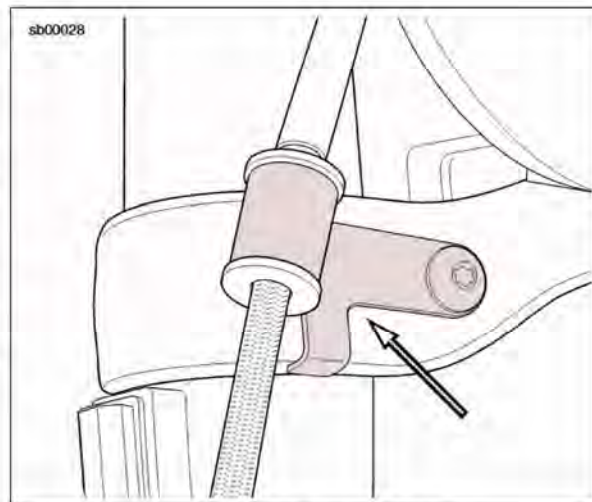

Figure 5. Front Brake Line Guide
7. Fit the rhino tape (2) against the lower edge of the outer fork tube and press into place.
8. Route the **new** brake line (3) behind the headlamp module and around the outside of the front fork along side the rhino tape.
11. See Figure 5. Install the front brake line guide and tighten to 36-60 in-lbs (4-7 Nm). Fill and bleed the front brake. See the service manual.